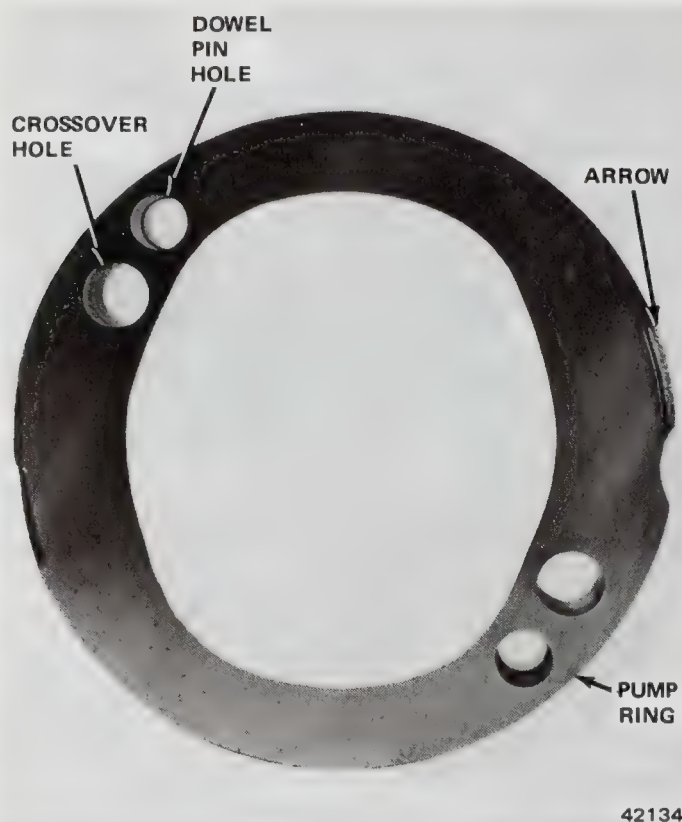

Fig. 2K-122 Pump Ring Dowel Hole Identification
(18) Install mounting stud seals and pump union seal in counterbored holes in pump body (fig. 2K-120).
(19) Install reservoir O-ring on pump body.
(20) Lubricate inner edge of reservoir with petroleum jelly and position reservoir on pump body. Press reservoir downward to seat it on pump body.